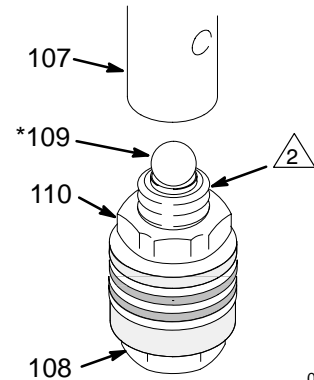

Fig. 20
- Tighten the nut (110) onto the piston valve (108) to 5 in-lb (0.57 N.m). See Fig. 20.
- Place the ball (109*) on the piston valve (108). See Fig. 20.